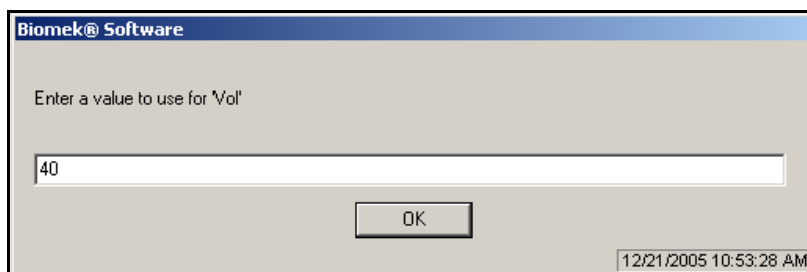

Figure 7-9. Prompt to specify the value of a variable
3. Run the method. A prompt appears allowing you to enter a value for the variable (Figure 7-9).